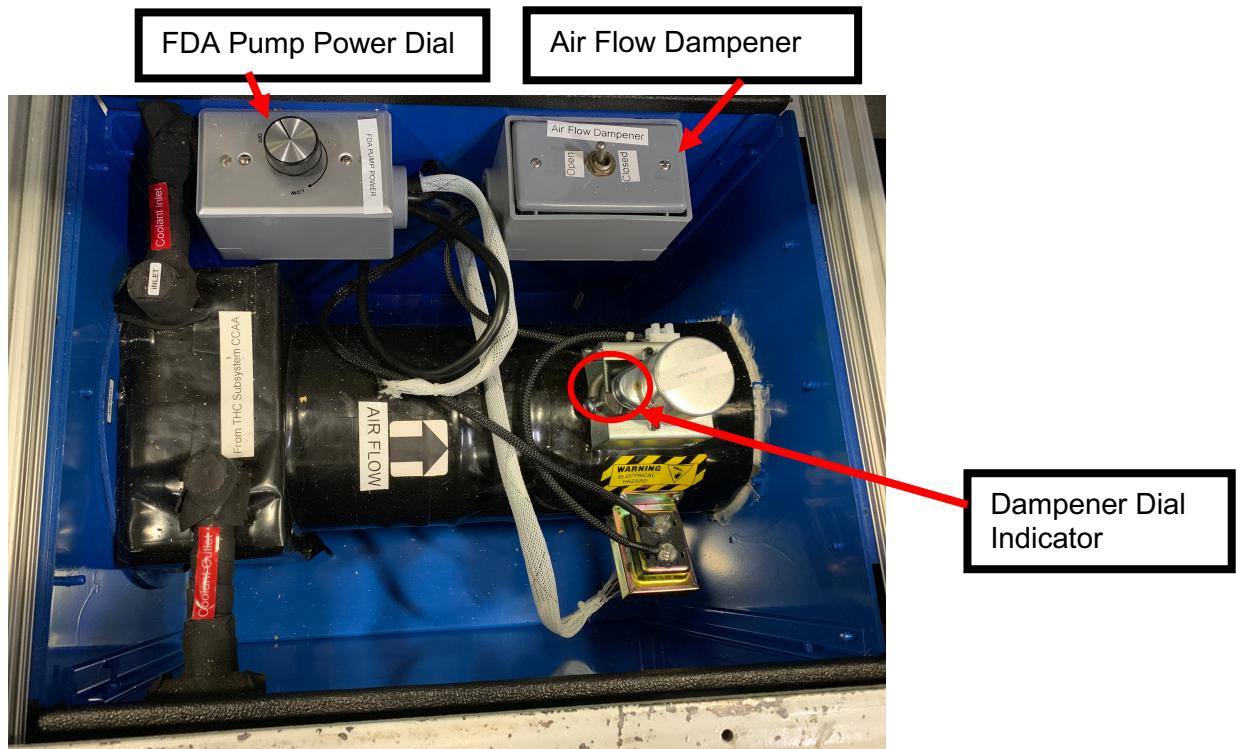

Figure 4: Fan Dampener Assembly (FDA) Pump
- 3.4 Turn FDA Pump Power Dial Counterclockwise to “OFF”. Listen for a click (See Figure 4).
- 3.5 Flip Air Flow Dampener switch to “CLOSED” (See Figure 4).
- 3.6 Confirm Dampener Dial Indicator (metal Philips head screw with spring attached) rotates to fully closed (See Figure 4).
- 7.1 Flip Air Flow Dampener switch to “OPEN” (see Figure 4).